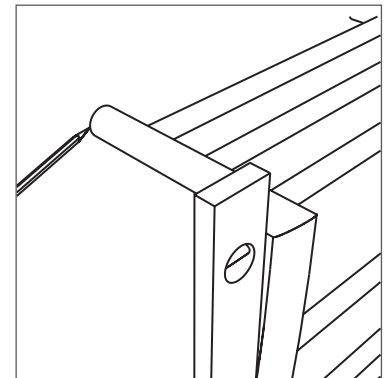

Fig 5.0
- Using a fine pencil, mark the position of the shelf tubes. see Fig 5.0